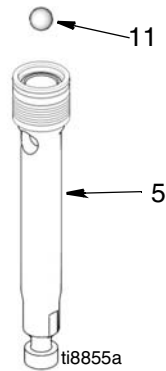

FIG. 10
5. (Fig 10) Install ball (11) in piston rod (5). If Loctite® is applied to piston valve threads, ensure that none gets on ball.